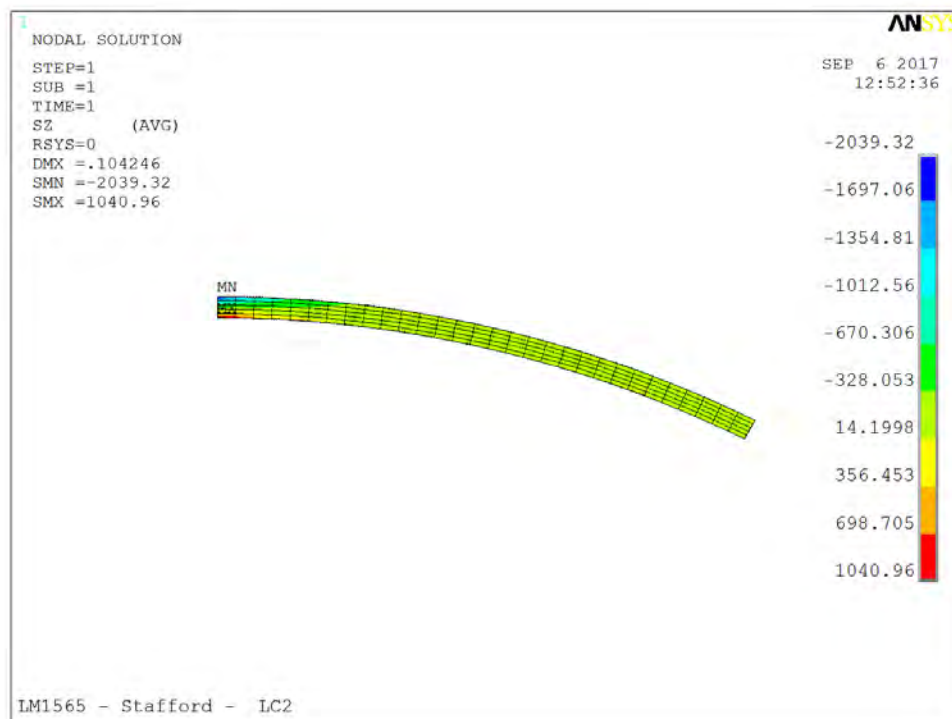

Fig. 2I
- **Fig. 2I - Dome hoop stress**